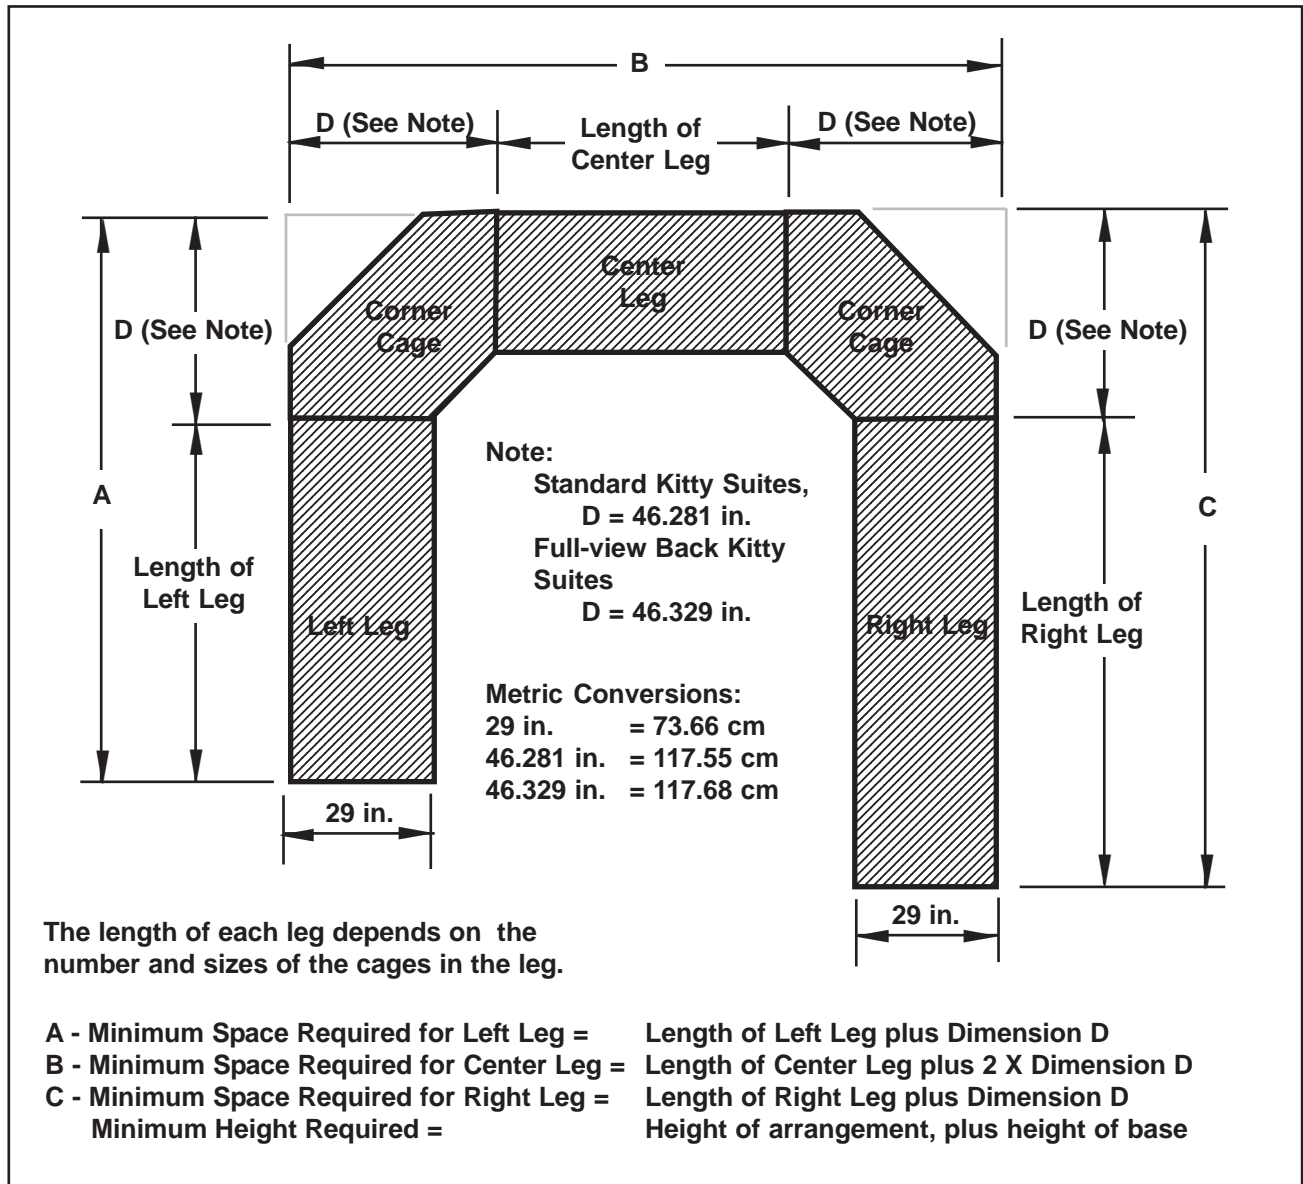

Figure 5. Top View of Minimum Space Required for a Typical U-shaped Arrangement
- U-shaped arrangements - Figure 5 on Page 11
In a U-shaped cage arrangement, the cages are set up in three separate straight lines, joined by corner cages, to form two right angles. The legs do not have to be of equal length. The arrangement can consist of one or more tiers. Figure 5 shows the minimum space required for a U-shaped arrangement. Keep in mind that two or three extra inches above the arrangement, in addition to the minimum height, will ease installation (and later removal, if necessary).